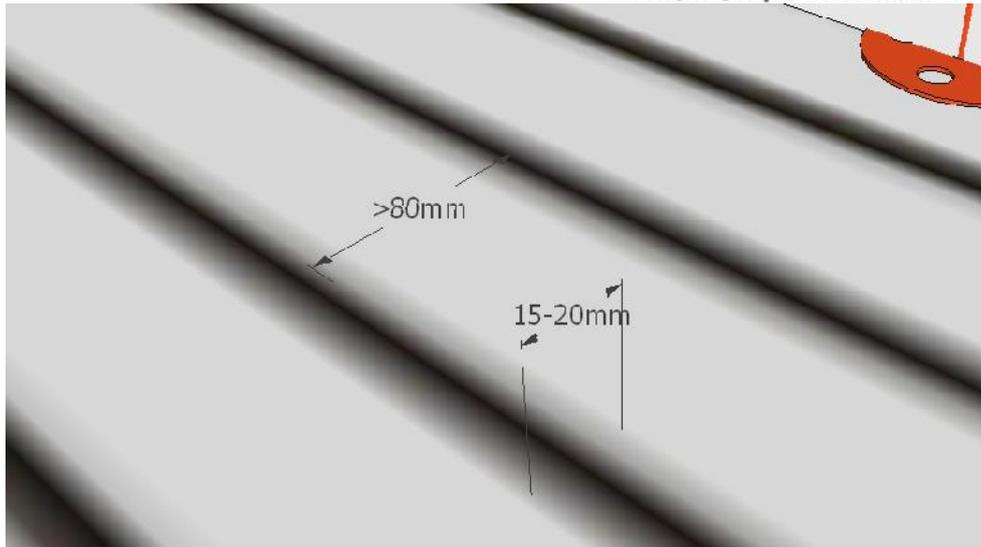

Figure 4. – The width of the lines and the distances between them.
- the width of the white surface between the lines and the track sides should be not less than 80 mm (Figure 4);